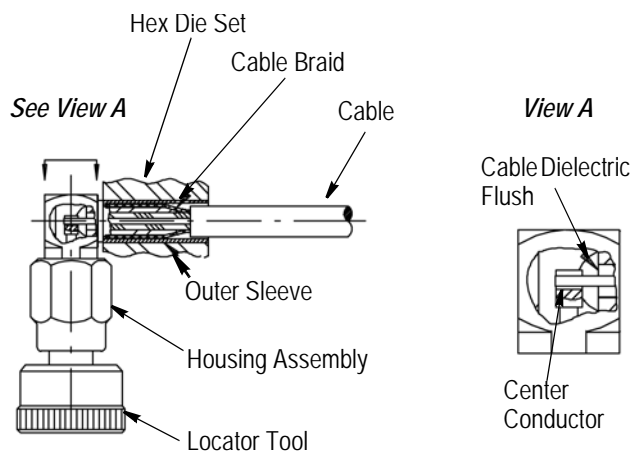

Figure 3
3. Secure the housing assembly to the locator tool as shown in Figure 3. Secure the housing assembly in a small bench vise.
5. Insert the center conductor into the housing assembly, making sure that the center conductor sits in the contact slot and the cable dielectric is flush. See Figure 3, View A.
7. Slide the outer sleeve over the cable braid. Crimp the outer sleeve. Trim excess braid strands. Refer to Figure 3.